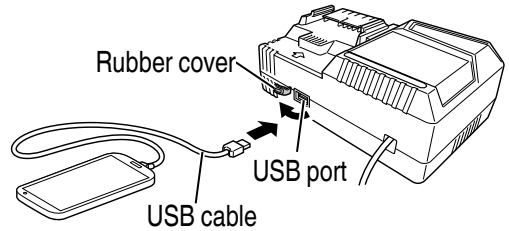

Fig. 8
- (2) Connect the USB cable. (Fig. 8)